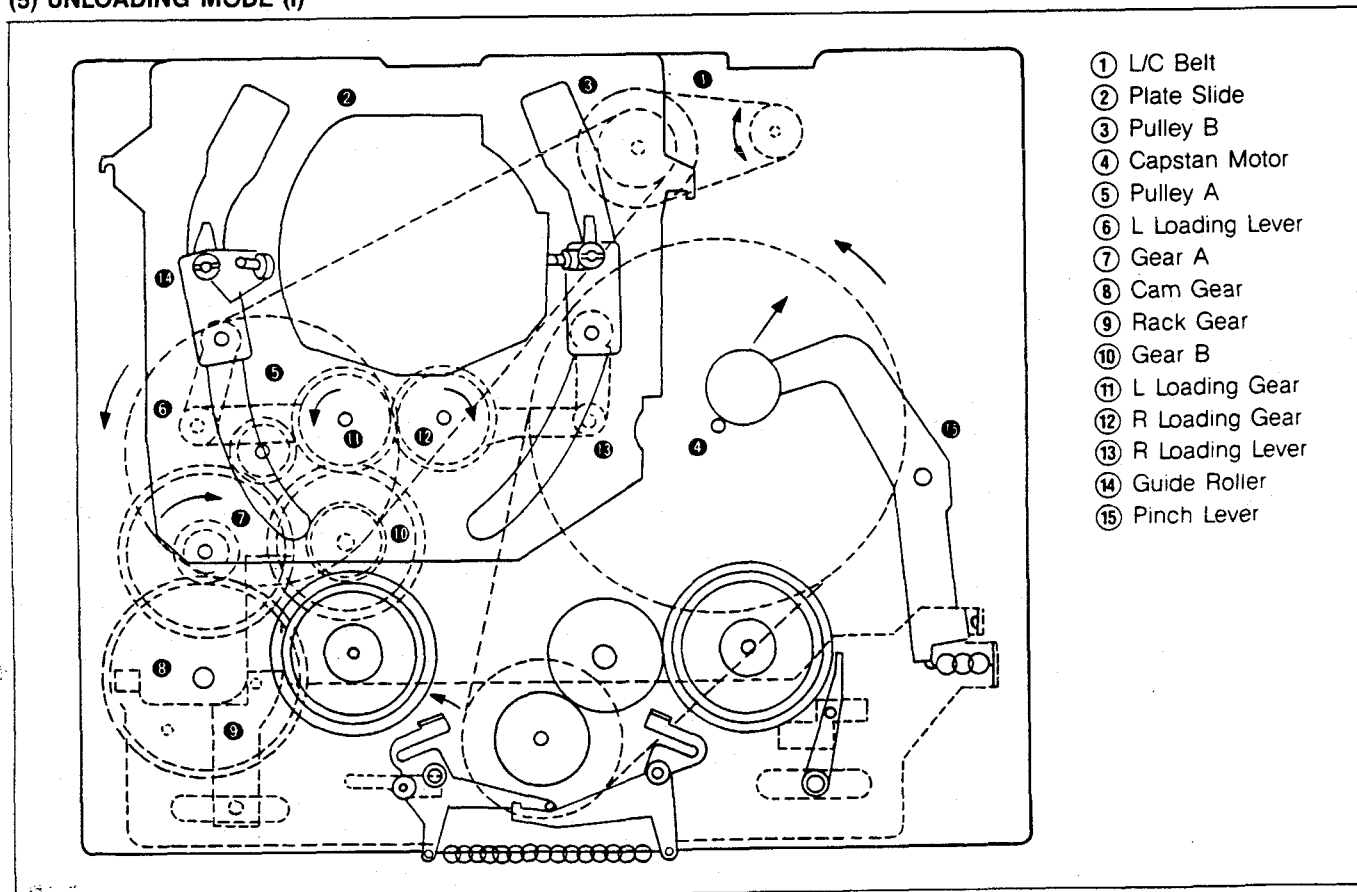

Fig. 51
When the stop button is pressed in the play mode the capstan M/T is stopped and the LC M/T starts to rotate ccw. The rotation of LC M/T is transmitted to the cam gear, which is rotated ccw as shown in Fig. 51.
As the cam gear rotates ccw, the rack gear is rotated in the direction indicated by the arrow as shown in Fig. 51 according to the decrease of the radius of cam surface.
- The pinch lever is moved in the direction indicated by the arrow as shown in Fig. 51.
- The supply and take up reel brakes are moved in the direction indicated by the arrow as shown in Fig. 51 and actuated on the S and T-U reel table.